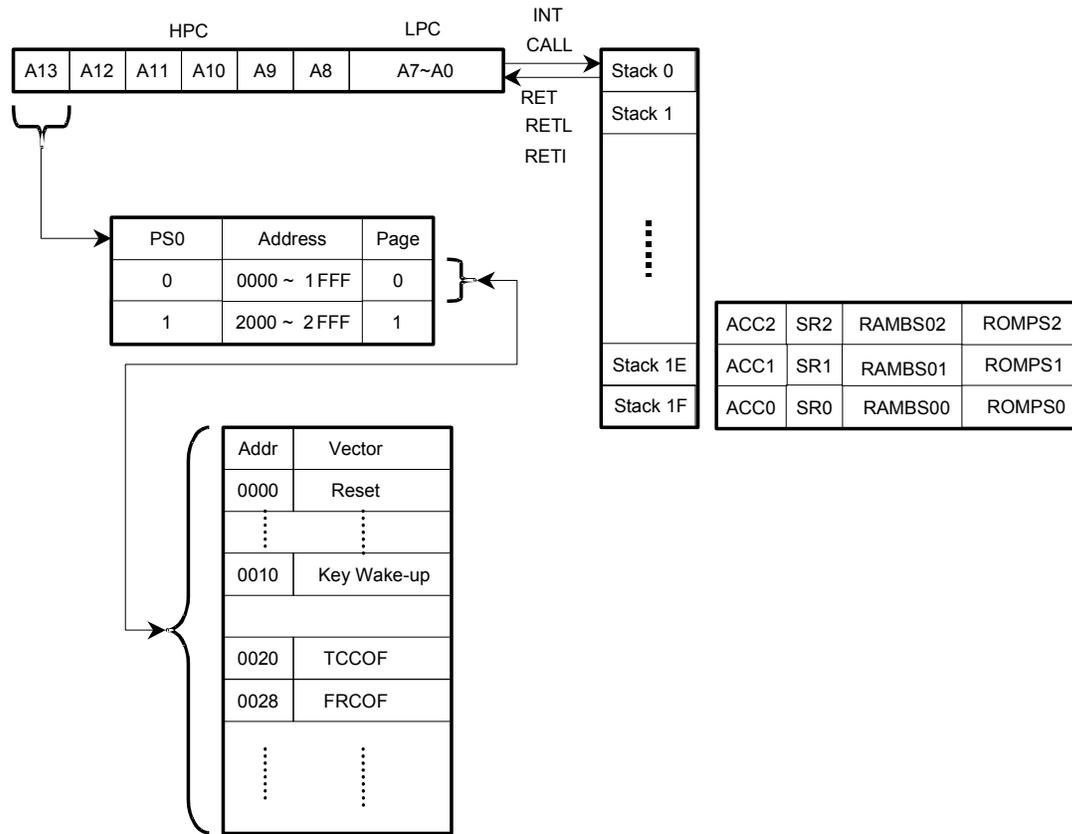

Fig. 6-1 Configuration of Program Memory (ROM) for EM77930
The EM77930 has a 14-bit program counter (PC). The program memory space, which is partitioned into two pages can address up to 12K. The first page has 8K and the second page has 4K in length. Fig. 6-1 depicts the profile of the program memory and stack. The initial Address is 0x0000. The table of the interrupt-vectors starts from 0x10 to 0xA8 with every other eight-address space.